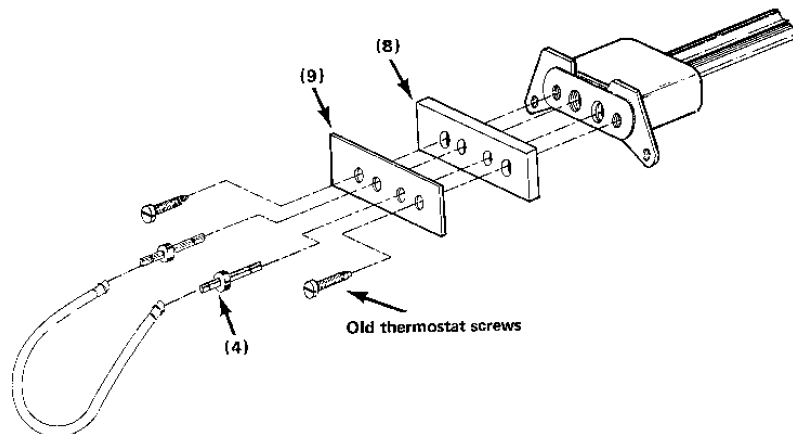

Figure-18
Leave pipe head attached to wall. Remove any fittings from pipe head and clean the sealing surface. Using the old thermostat-to-pipe head mounting screws, install the Powers adaptor and gasket as shown in Figure-18. Do not tighten the screws until the adaptors (4) have been inserted. Insert the long end of adaptors (4) into the pipe head until the shoulder of adaptor (4) is against the metal plate. Carefully tighten screws.